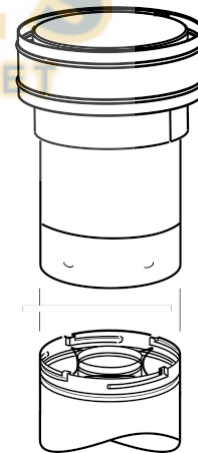

Figure 34
K. Install the vertical termination - The final step involves installation of the SV4.5CGV-1 Vertical Termination. Extend the vent sections to the height as shown in the "Vertical vent termination section" on **page 6**. The SV4.5CGV-1 Vertical Termination (**Figure 34**) installs in the exact same fashion as any other **Secure Vent** section. Align the termination over the end of the previously installed section, adjusting the radial alignment until the four locking dimples of the termination are aligned with the inlets of the four incline channels of the last vent section. Push the termination down until it fully engages, then twist the termination clockwise running the dimples down and along the incline channels until they seat at the end of the channels.